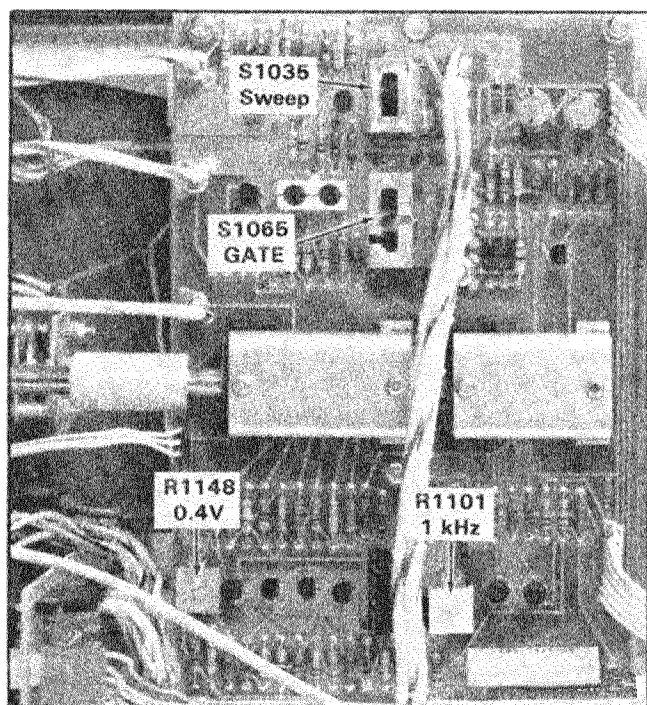

Fig. 5-8. Location of calibrator adjustments and switch locations.
c. Adjust—0.4 V, R1148, for a meter reading of 0.4000 volt. See Fig. 5-8 for adjustment location.
g. Adjust—1 kHz, R1101, for minimum drift. See Fig. 5-8 for adjustment location.
c. Set the Sweep selector switch, S1035, to A. See Fig. 5-8 for location.
e. Set the Sweep selector switch, S1035, to B, and the time-base in B HORIZ compartment to 1 ms/div. See Fig. 5-8 for location.
b. Set the Gate selector switch, S1065, to A. See Fig. 5-8 for location.
d. Set the Gate selector switch, S1065, to B. See Fig. 5-8 for location.
f. Set the Gate selector switch, S1065, to Dly'd. See Fig. 5-8 for location.
c. Set the Readout switch (S2110), to F.R. (Free Run) and the Gate switch (S1065), to A. See Fig. 5-9B for Readout switch location and Fig. 5-8 for Gate switch location.